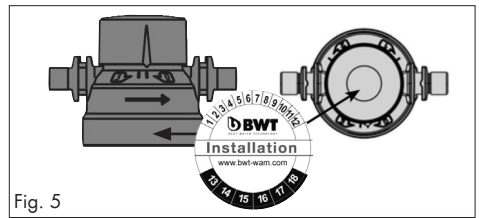

Fig. 5
7. Mark the included label with the installation date (month/year) and stick the label on top of the filter head (see Fig. 5).